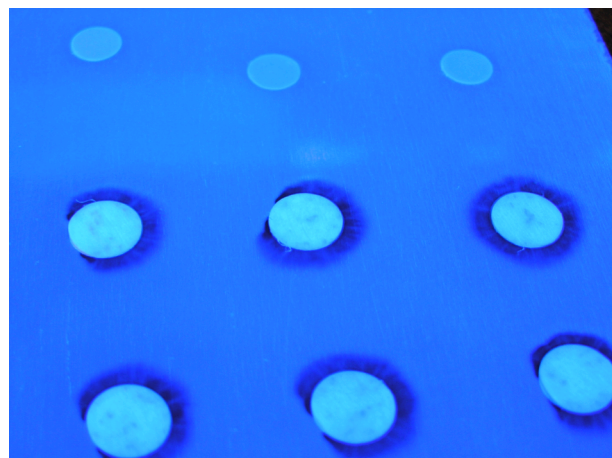

Figure 3: De-wetting of the conformal coating around the masking dots on a blank circuit
- Reacting in an adverse way with the conformal coatings themselves to produce de-wetting effects on the circuit board (Figure 3)